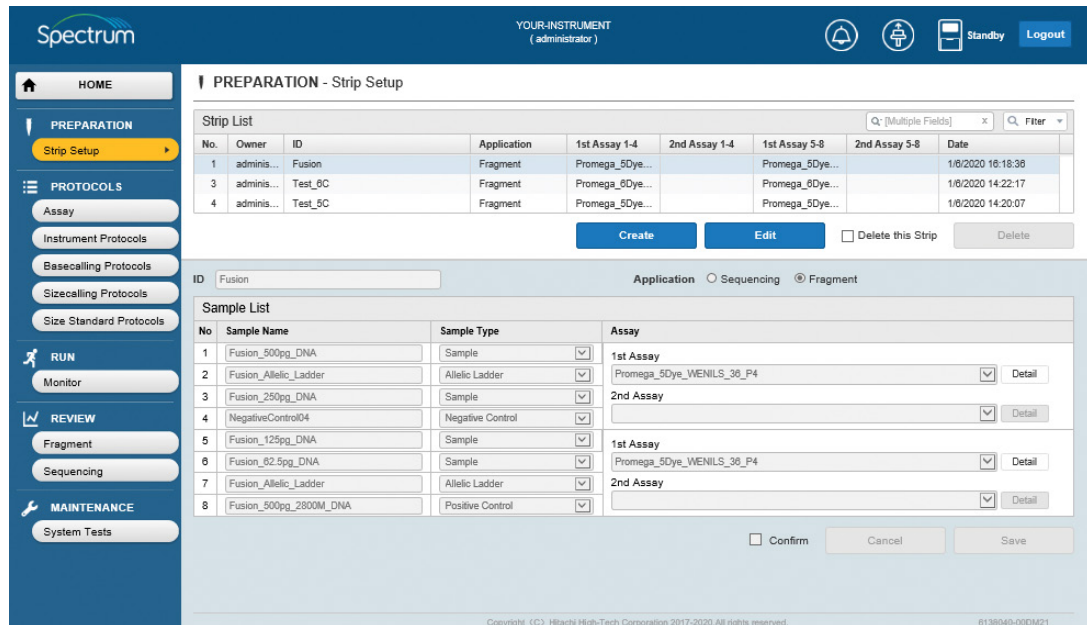

Figure 21. 'Strip Setup' screen with active Edit button.
7. Select the Strip ID in the Strip List that you want to edit. This will activate **Edit** (Figure 21).
15. Check the **Confirm** box and select **Save** (Figure 21). If no errors are detected, "Normal End" in a green horizontal box will appear on the screen. If errors are detected, either "Invalid data entered" or "The value is out of range" will appear in a red horizontal box and the software will indicate where the error is occurring.
1. Select **Setup Strip** from the Main Menu of the 'HOME' screen (Figure 12), and then select the Strip ID in the Strip List that you want to delete (Figure 21).